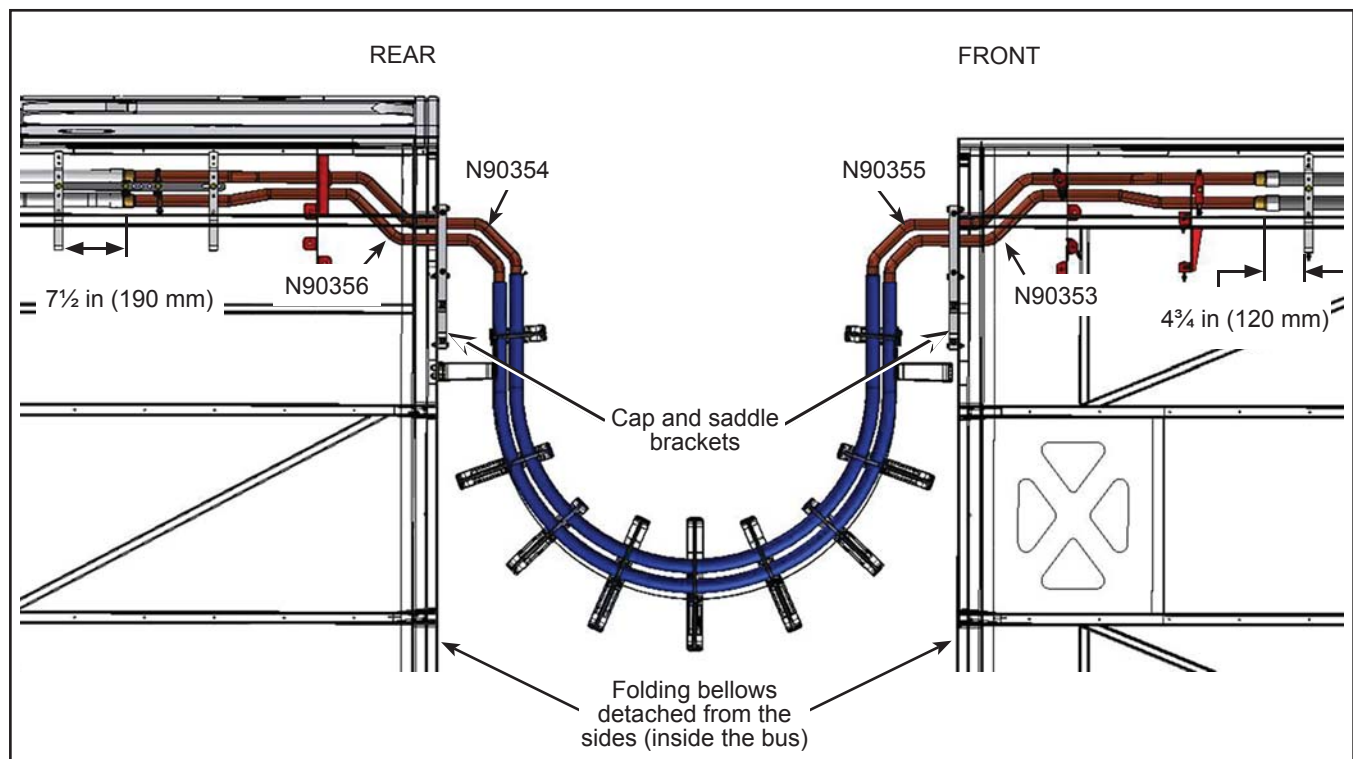

Figure 2 - Copper Pipes Replacing a Segment of the Flexible Hoses
- 1.15. Repeat steps 1.13 and 1.14 to install the **INNER** copper pipe N90356. See Figure 2 for the schematic view.